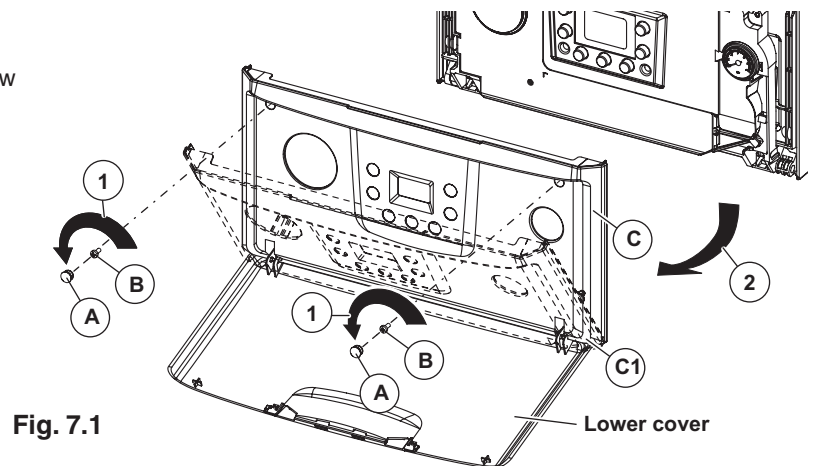

Fig. 7.1
7.2 CASING REMOVAL - Figs. 7.1, 7.2, 7.3 and 7.4
Control panel cover - Fig. 7.1